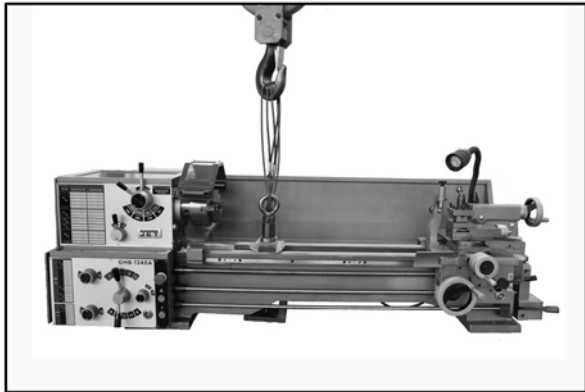

Figure 3
5. Assemble parts fastened to the crate bottom used to lift the lathe. See Fig. 3. (Note: Lifting parts are not tightened in Fig. 3 to show detail.) Using a piece of leather or a block of wood under the metal block to protect the ways during lifting is highly recommended.